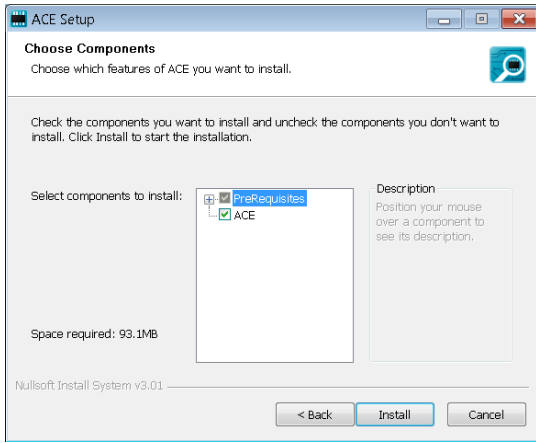

Figure 11. Choose Components
7. The ACE software components to install are preselected. Click **Install** (see Figure 11).